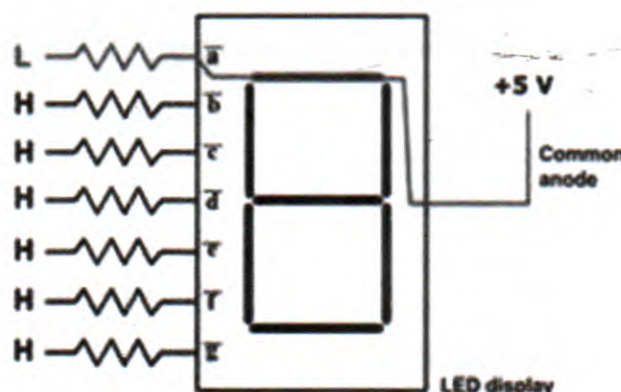

Figure 5.1: Common Anode Seven Segment Display
- i. Carry out the simulation of the circuit in Fig. 5.1 on Proteus simulating software.
- vi. Plot a graph of Temperature in ($^{\circ}\text{C}$) and voltage (V).